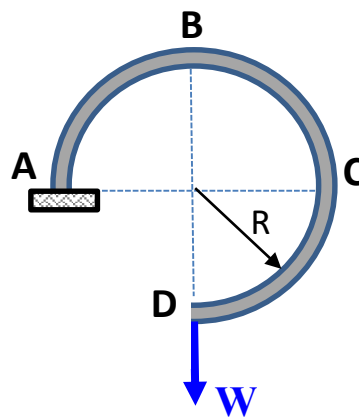

Figure 2
- (ii) Calculate the applied force P in newton (N), if the bar dimension $L = 1.0$ m, the angle, $\theta = 60^\circ$, the spring stiffness, $k_1 = 1000$ N/m and $k_2 = 1000$ N/m respectively. (2 marks)
- (b) A cantilevered curved beam (A-B-C-D) is subjected to a load, W , at the free end (D) as shown in Figure 2. Using the Unit Load method (consider only bending effects and state clearly your datum), determine the following: